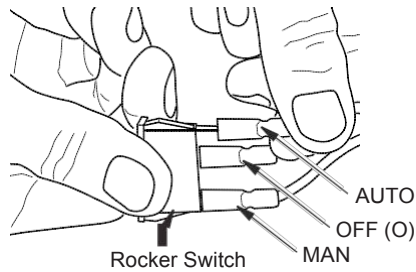

Figure 33 - Connecting Wires to Rocker Switch
16. Feed the AUTO, OFF, MAN connectors through the rocker switch hole on the left side of the control panel (see Figure 33).
17. Connect the AUTO, OFF, MAN wires to the three corresponding male tabs on the rocker switch (see Figure 33).